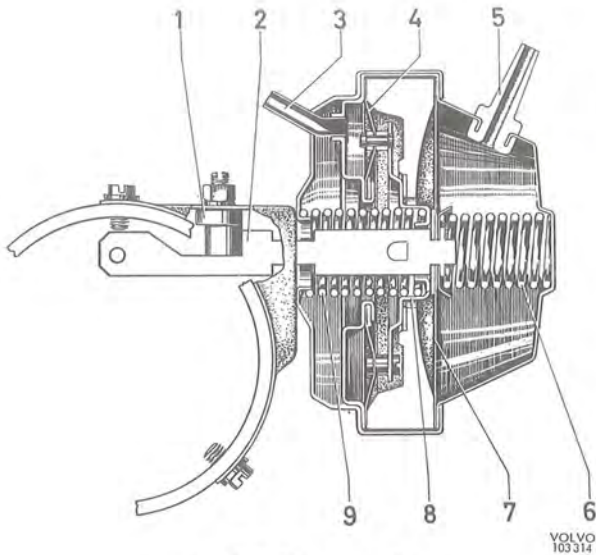

Fig. 3-49. Vacuum regulator
The vacuum regulator has two diaphragms and is constructed so that during engine braking or idling it lowers the firing during the basic adjustment. When engine braking or idling takes place, the throttles in the carburettors are closed so that there is no vacuum in the connection from the carburettors (5, Fig. 3-49) so that the return spring (60) presses back the primary diaphragm (7) against the stop (8). The pull rod (2) which is secured to the primary diaphragm (7) transmits the movements in the diaphragm to the breaker plate. If the vacuum in the connection from the intake manifold (3) is sufficiently large, pull the secondary diaphragm (4) from the stop (8) and this lowers the firing during the basic adjustment.